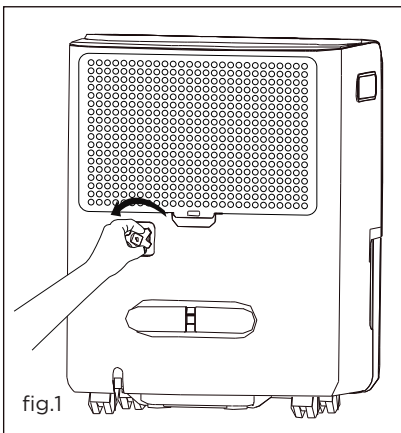

fig.1
- b. Unscrew the drain cap on the back side of the unit. (fig.1)